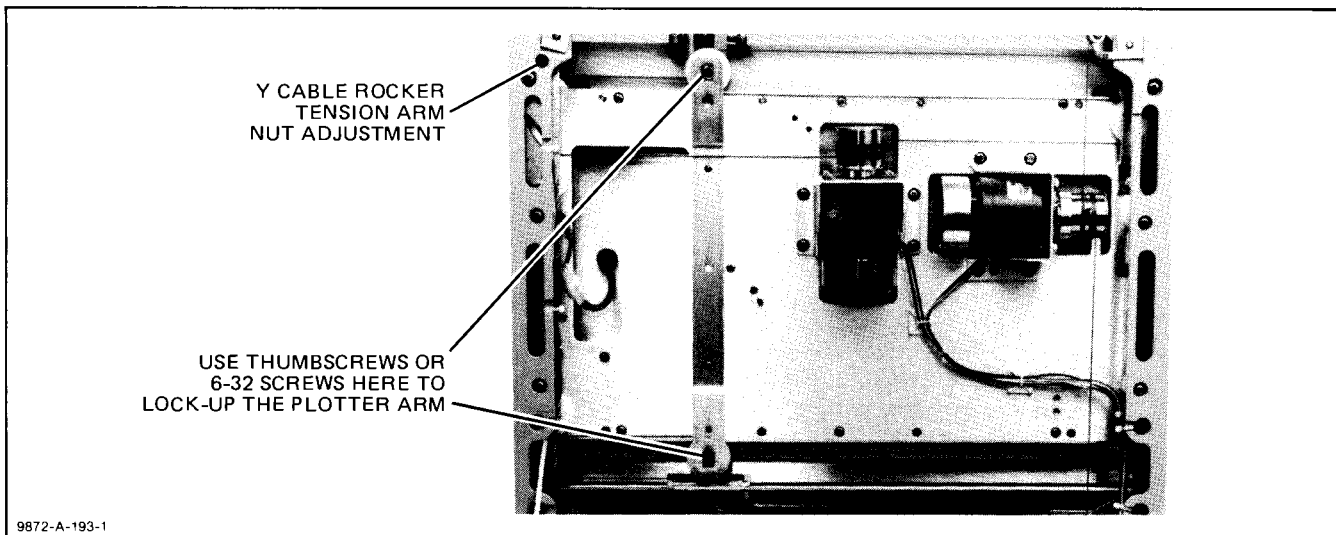

Figure 6-15. Underside View of Top Desk Assembly
- a. Place the pen carriage at the center of the arm, and position the arm over the deck locking assembly and fasten with two 6-32 screws. See Figure 6-15.